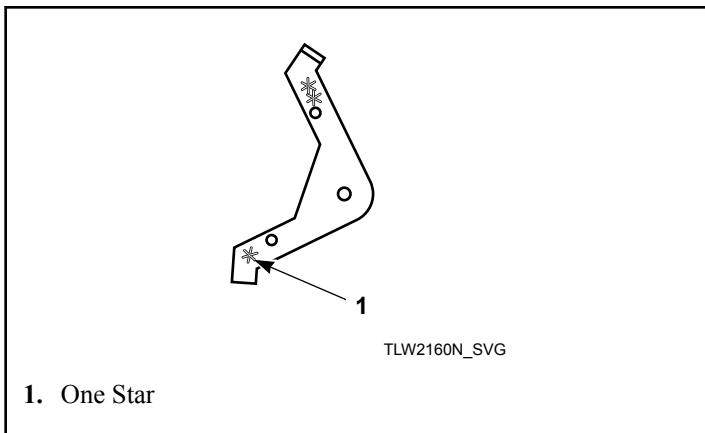

Figure 39
2. Install extension lever with arm that has one star facing down. Refer to *Figure 39*.